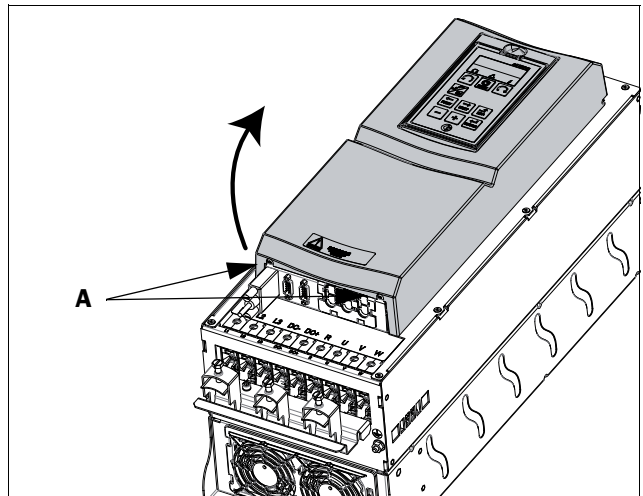

Fig. 24 Remove the front cover on frame size C2 - F2 (principle drawing).
- Loosen the two screws A (see Fig. 24) at the bottom of the cover a couple of turns (you do not have to remove the screws).